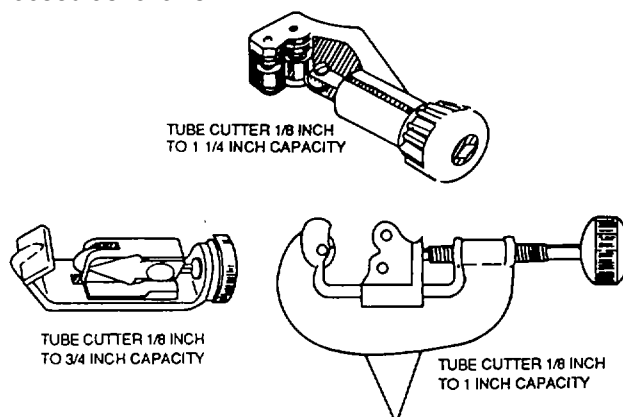

Figure 4-115. Tube Cutters
(2) *Tube Cutters*. Tube cutters are used to cut tubing made of iron, steel, brass, copper, and aluminum. They resemble pipe cutters, except that they are of lighter construction. Some tube cutters have built-in portions in the body which are rotated in the tubing after it is cut to eliminate any burrs, shown in figure 4-115.